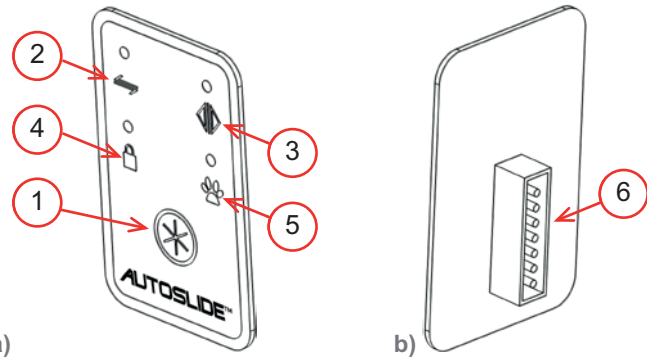

Figure 36: (a) The front of the mode pad, and (b) back of the mode pad with 7-pin connector.
The mode pad (Figure 36) allows users to cycle between the four different modes of operation by pressing the mode button (1). The four modes displayed on the mode pad are:
- **Unsecured Mode** (2): The door opens automatically, the locking function is disabled, & sensors for Indoor and Outdoor work.
- **Stack/Hold Open Mode** (3): In Hold Open Mode, the door stays open until the mode is changed. In Stack Mode, the door operates on a click-to-move setting. Push a button to open the doors and then push a button to close the doors. Place DIP switch #4 in the 'On' position to activate Stack Mode.
- **Secured Mode** (4): The door opens only when it is activated by a sensor or remote programmed for the Inside Sensor setting. The automatic locking function is enabled.
- **Pet Mode** (5): The door can be open to the Pet Width using a programmed pet sensor. The door also opens to the normal width when it is activated by a sensor or remote programmed for the Inside Sensor setting. The automatic locking function is enabled. door is locked with an electric lock (if fitted).